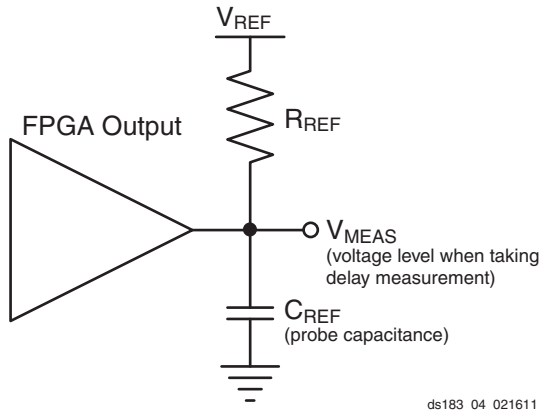
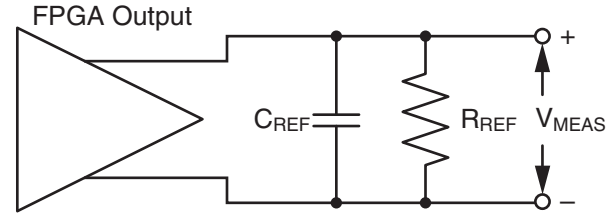

Figure 4: Single Ended Test Setup
Figure 5: Differential Test Setup
5. This is an input voltage reference that bears no relation to the  $V_{REF} / V_{MEAS}$  parameters found in IBIS models and/or noted in Figure 4.
Output delays are measured using a Tektronix P6245 TDS500/600 probe (< 1 pF) across approximately 4" of FR4 microstrip trace. Standard termination was used for all testing. The propagation delay of the 4" trace is characterized separately and subtracted from the final measurement, and is therefore not included in the generalized test setups shown in Figure 4 and Figure 5.